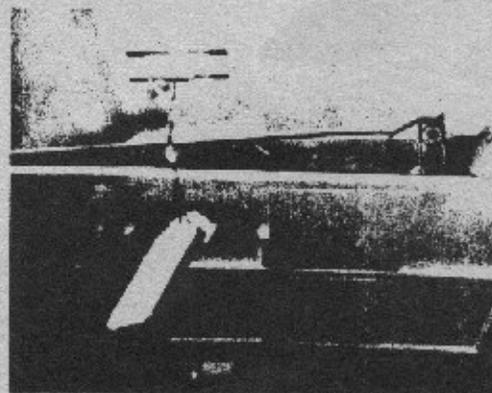

figure 2
- A. Raise road cover to gain access into interior. From the interior, remove one (1) screw securing fan shroud and screen.
- B. Remove four (4) screws in plate securing fan and shroud.
- C. Disconnect electrical harness (fig. 2).